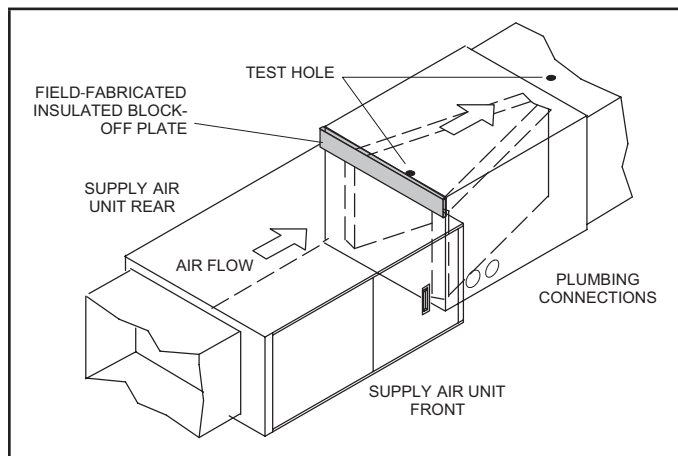

FIGURE 2. D-Width Coil with C-Width Furnace
- 5 - **Applications using 7EHX D-width unit with C-width furnace** – Figure 2 shows an application that includes a D-width coil and a C-width furnace. This application requires construction of an insulated, field-supplied block-off plate to cover the open space on the coil housing